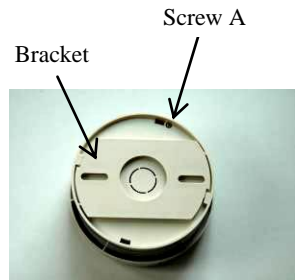

Fig. 1
1. Refer to Fig. 1, loosen the Screw A on the bottom box by about 5 turns counter-clockwise